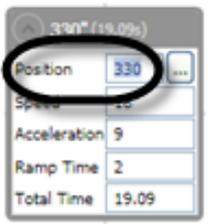

Figure 217
1. Type a new position value directly into the **Position** field (Figure 217).